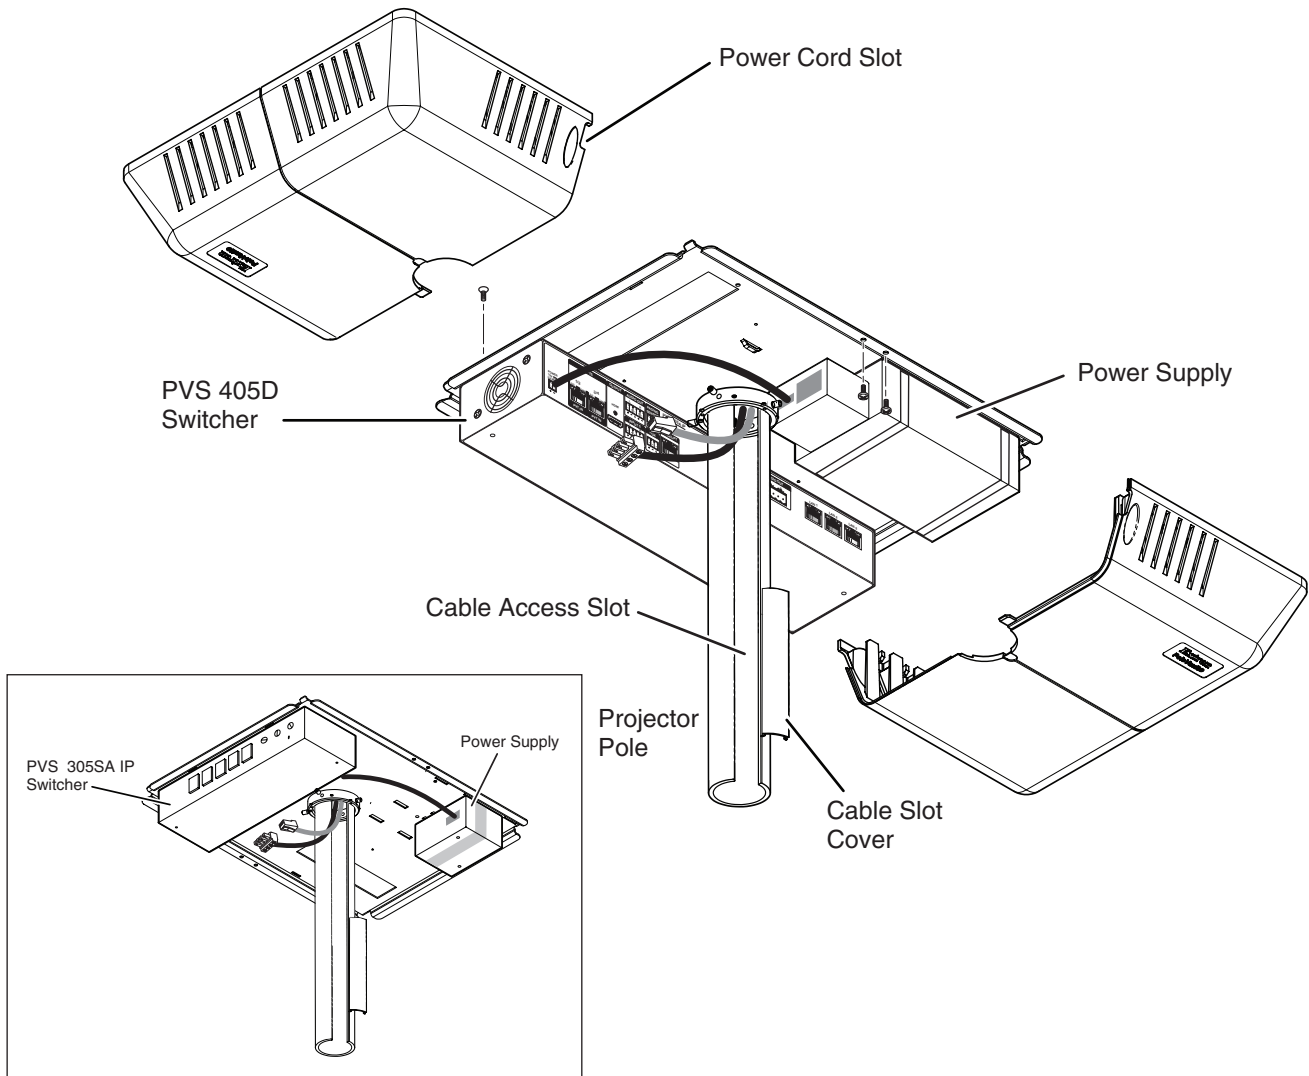

Figure 3. Attach the PMK to the pole, cable the PVS switcher and then re-attach the two covers (inset shows the PVS 305SA IP installation location).
7. Route the signal cables so that they exit the pipe via the cable access slot (see figure 3).
10. Slide the covers onto the base plate, passing the AC power cord out through the power cord slot between the covers (see figure 3).